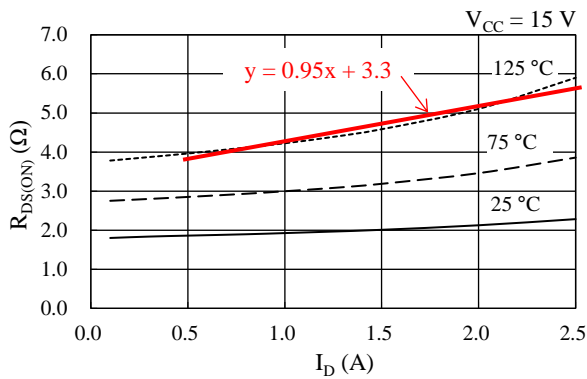

Figure 13-1. Linear Approximate Equation of  $R_{DS(ON)}$  vs.  $I_D$
Steady-state loss in a power MOSFET can be computed by using the  $R_{\text{DS(ON)}}$  vs.  $I_{\text{D}}$  curves, listed in Section 14.3.1. As expressed by the curves in Figure 13-1, a linear approximation at a range the  $I_{\text{D}}$  is actually used is obtained by:  $R_{\text{DS(ON)}} = \alpha \times I_{\text{D}} + \beta$ . The values gained by the above calculation are then applied as parameters in Equation (1), below. Hence, the equation to obtain the power MOSFET steady-state loss,  $P_{\text{RON}}$ , is: